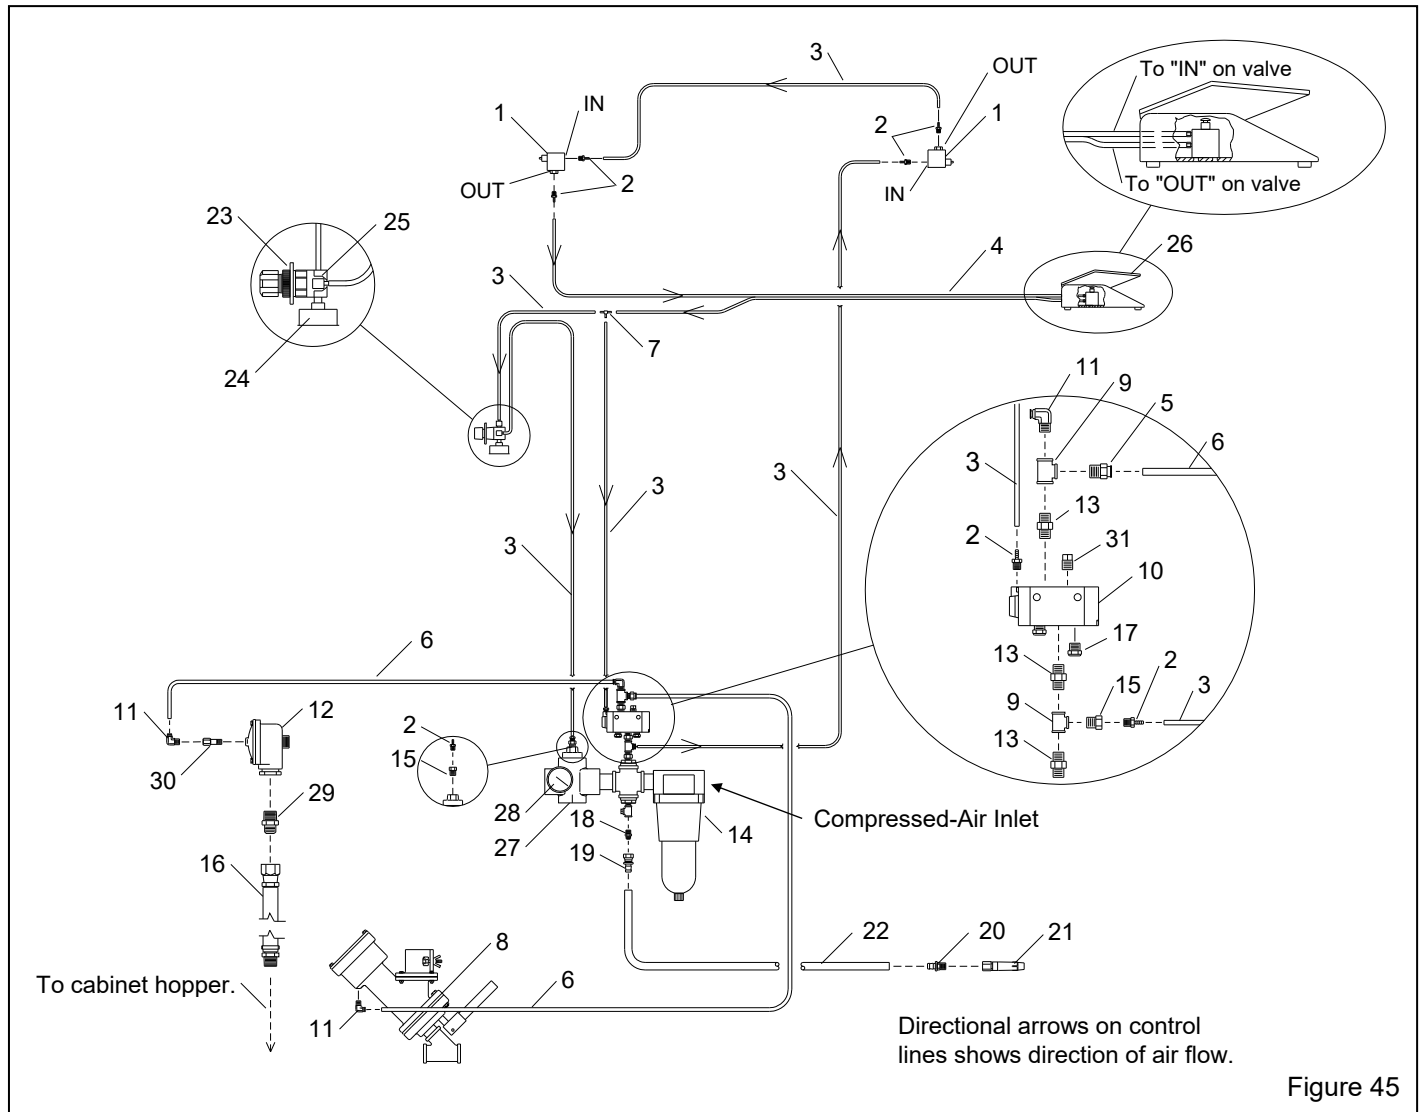

Figure 45
9.7 Plumbing and Cabinet Controls – Figure 45